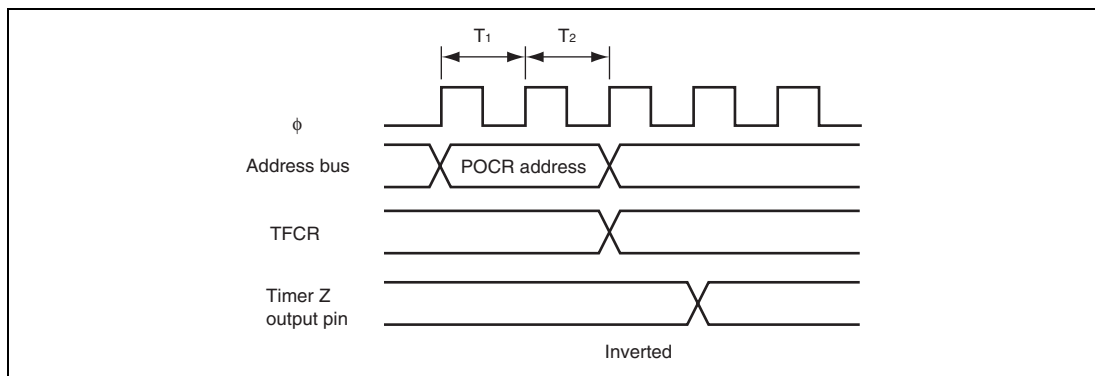

Figure 12.47 Example of Output Inverse Timing of Timer Z by Writing to POCR
4. Output Inverse Timing by POCR: The output level can be inverted by inverting the POLD, POLC, and POLB bits in POCR in PWM mode. Figure 12.47 shows the timing.